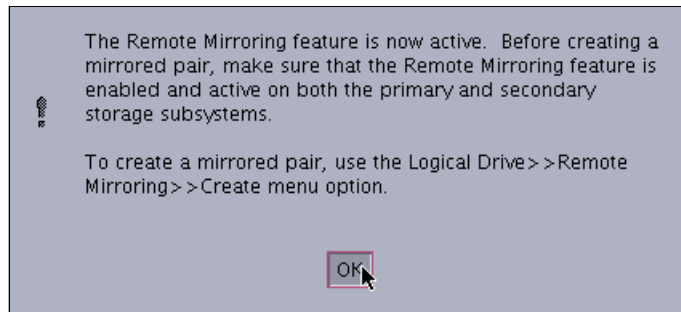

Figure 13-24 Activate Remote Mirroring Wizard: Completed
5. The Activate Remote Mirroring Wizard Completed message is displayed (Figure 13-24). Click **OK** to close the dialog.